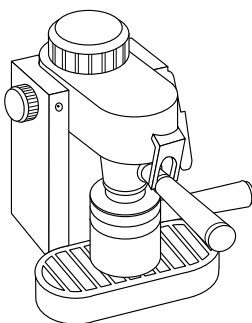

FIGURE 3
- Plug the power cord into an electrical outlet and rotate the control knob upward to the "cup" symbol, which begins the brewing process. The light will illuminate to let you know that the machine is on. (See Figure 3)